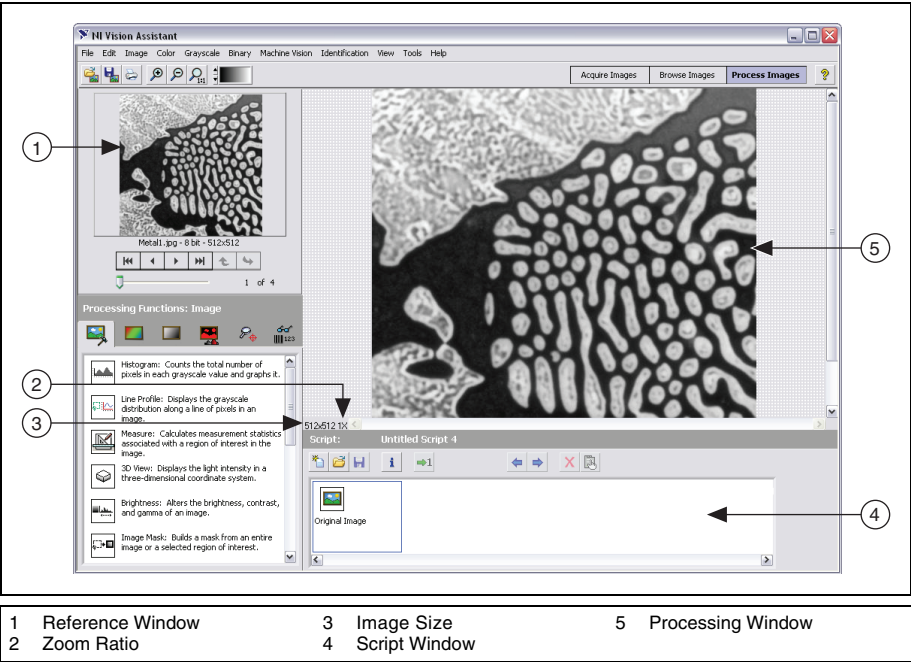

Figure 2-2. Processing an Image
- **Script window**—Records a series of image processing steps and the settings you use for each of those steps. You can run scripts on single images or in a batch to analyze a collection of images. You also can modify and save scripts. Refer to Figure 2-2, *Processing an Image*, for an example of the Script window.
- **Processing Window**—Updates the image as you change parameters. Because this view immediately reflects the changes you have made in the Setup window, you can continue modifying parameters until you get the result you want. Refer to Figure 2-2, *Processing an Image*, to view an image loaded into the Processing window.
- **Reference Window**—Displays the image source as you manipulate it in the Processing window. Refer to Figure 2-2, *Processing an Image*, to view an image in the Reference window.
8. Click **Process Images** in the upper right corner of the Vision Assistant window to begin processing images. Vision Assistant loads the image into the Processing window, as shown in Figure 2-2.